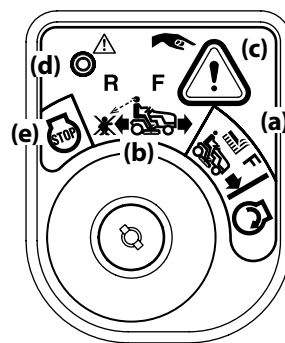

Figure 3-3
- Turn the key from the NORMAL MOWING  (a) position to the REVERSE CAUTION MODE  (b) position of the ignition module. See Figure 3-3.
- Press the REVERSE PUSH BUTTON  (c) at the top, right corner of the ignition module. The red indicator light (d) at the top, left corner of the ignition module will be ON while activated. See Figure 3-3.
6. The REVERSE CAUTION MODE (B)  will remain activated until: